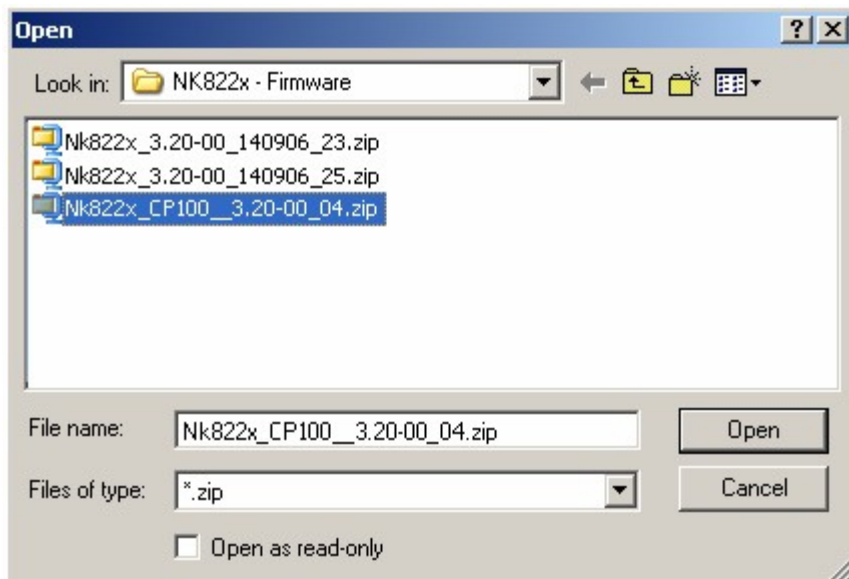

Fig. 8 Opening the new NK822x firmware files
- And finally click 'Open' (Fig. 8).